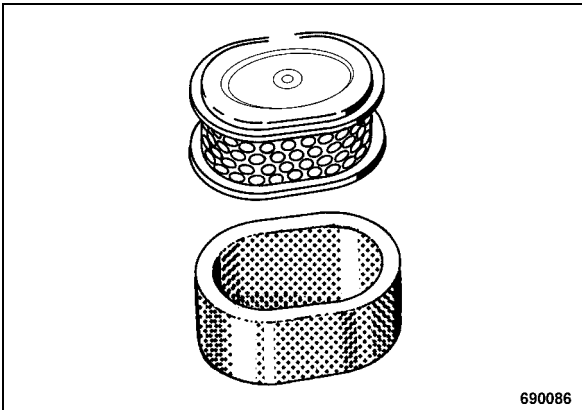

Fig. 74
- Pull the foam rubber insert over the paper element (Fig. 74).